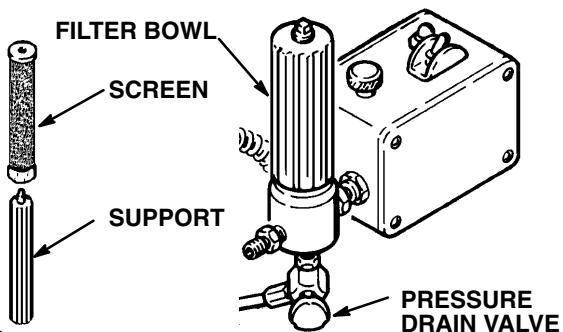

Fig 6
2. Remove the filter bowl and screen; see manual 307-273. Clean the screen. Install the bowl (only) to flush it. Close the pressure drain valve. See Fig 6.